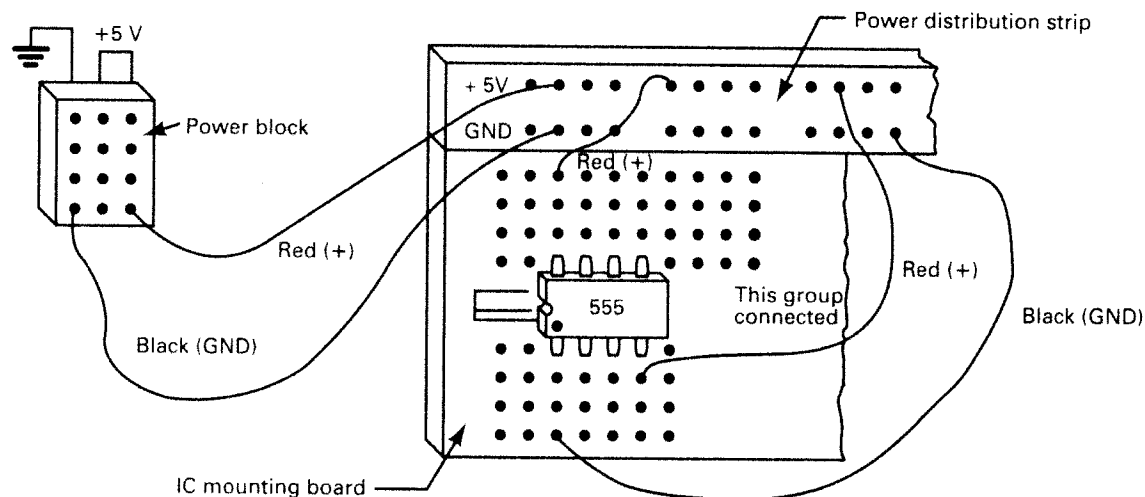

Fig. 1-4 Mounting and powering the 555 IC on a typical trainer.
2. Refer to Fig. 1-4. This is a simplified view of solderless breadboards similar to those on a digital trainer manufactured by Dynalogic Concepts.
3. Power OFF. Refer to Fig. 1-4. Connect power from the power block to the power distribution strip. Color-code wires as shown.
4. Power OFF. Refer to Fig. 1-4. Connect power to the 555 timer IC. Use color-coded wires as shown.